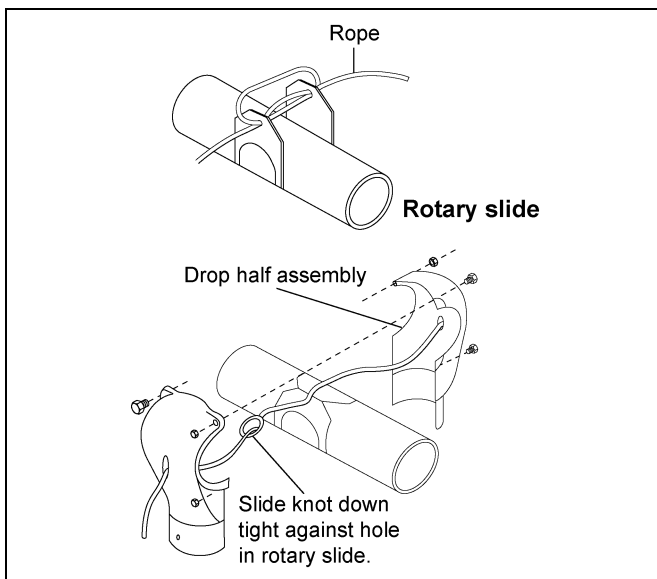
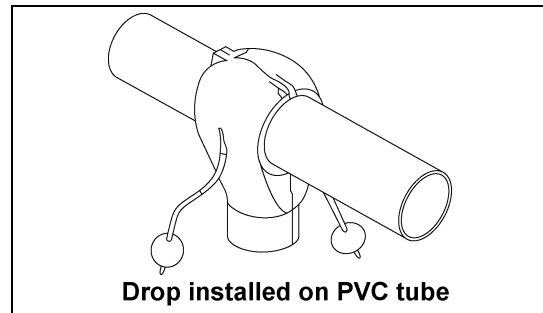

Figure 2
Figure 3
3. Thread the rope through the ends of the rotary slide as shown in Figure 2 and tie the slide ends together so that the ends of the rope are the same length.
5. Snap a hex nut in each of the four (4) hexagon shaped sockets on the drop halves. Push machine screws in the corresponding holes in each outlet half.
6. Fasten the two (2) halves together using screws threaded into the drop halves. (See Figure 3.)